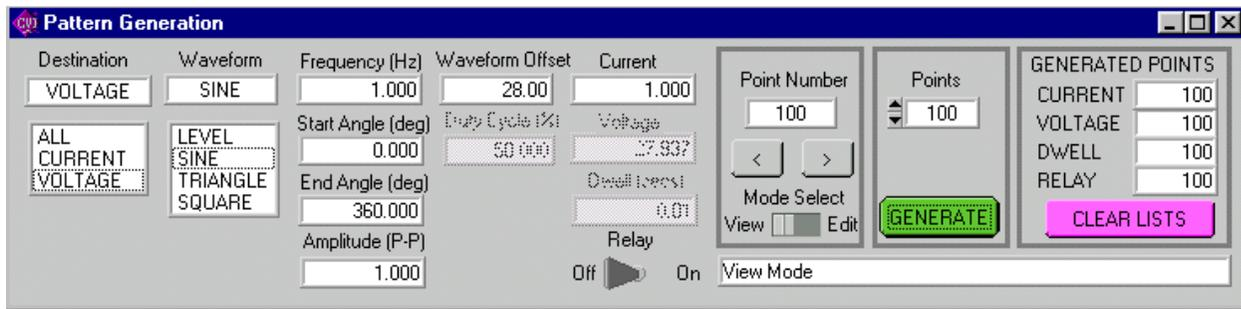
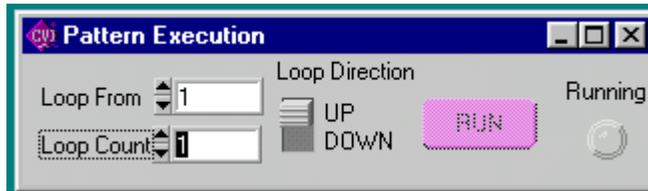

FIGURE 10 PATTERN GENERATION WINDOW
FIGURE 11. PATTERN EXECUTION WINDOW
2.2.9.1 The **Pattern Generator Open** button opens the Pattern Generation Window (Figure 10); the **Pattern Execution Open** button opens the Pattern Execution window (Figure 11).
2.2.9.3 The first line is a header, that defines columns (separated by commas) with a corresponding parameter. The column with a “C” or “c” is defined as Current, “V” or “v” is defined as voltage, “D” or “d” is defined as Dwell Time, and “Y” or “y” is defined as Relay followed by (CR,LF). The second line defines the first data point, with data separated by commas (in the same order as defined by the header), followed by (CR,LF). Additional data lines define additional data points. The EOF defines the end of the pattern. A pattern produced using the Pattern Generation window (Figure 10) can be saved in this format using the **Pattern Export File Select** button.
2.2.9.4 The Pattern Generation window (Figure 10) allows a user-specified program of up to 100 points to be generated. This method of generating complex patterns, allows rigorous testing of a UUT (Unit Under Test), within the boundaries determined by the virtual model and the load conditions.
2.2.9.9 **Complex Pattern Generation.** When the **Destination** is set to CURRENT or VOLTAGE, the pattern generator window (Figure 10) can be used to produce a complex waveform. The complex output is built by adding segments from each of the four basic waveform types: LEVEL, SINE, TRIANGLE or SQUARE. Each time the GENERATE button is clicked, the waveform selected is generated using the number of points specified in the **Points Window**. Setting **Destination** set to CURRENT produces a current waveform; a **Destination** of VOLTAGE produces a voltage waveform.
2.2.9.10 The Pattern Execution window (Figure 11) allows the program established by either the pattern generation window or imported file (see PAR. 2.2.9.2) to be executed. If the **Loop Direction** is set to UP, the **Loop From** window establishes the point in the loop that will start repeating. For example, if the list is 10 points, and **Loop From** is set to 3, the first 2 points would only be executed once, and the points from 3 to 10 would be repeated the number of times specified in the Loop Count Window. If **Loop Count** is set to 0 the program will run continuously until stopped by the user. The **RUN** button starts the program. While the program is running the **Running** indicator is on and the **RUN** button changes to a **STOP** button used to halt the program. When the program is halted, the unit reverts to the settings in effect prior to issuing the RUN command. If the **Loop Direction** is set to DOWN, the entire loop will be repeated in the reverse direction (the **Loop From** window is not active). The **Loop count** functions as described above for Loop Direction UP.